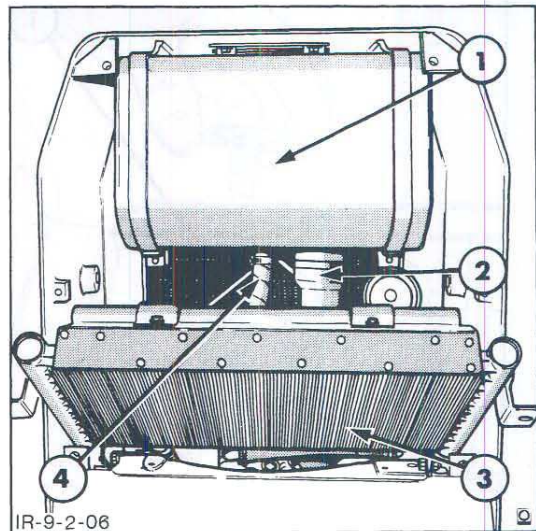

Figure 5
5. Remove the two upper oil cooler retaining bolts and tilt the cooler forward, Figure 5.